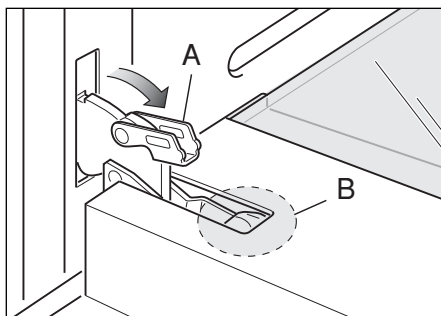

Fig.50b
- Open the lever "A" completely on the left and right hinges (Fig. 50b).